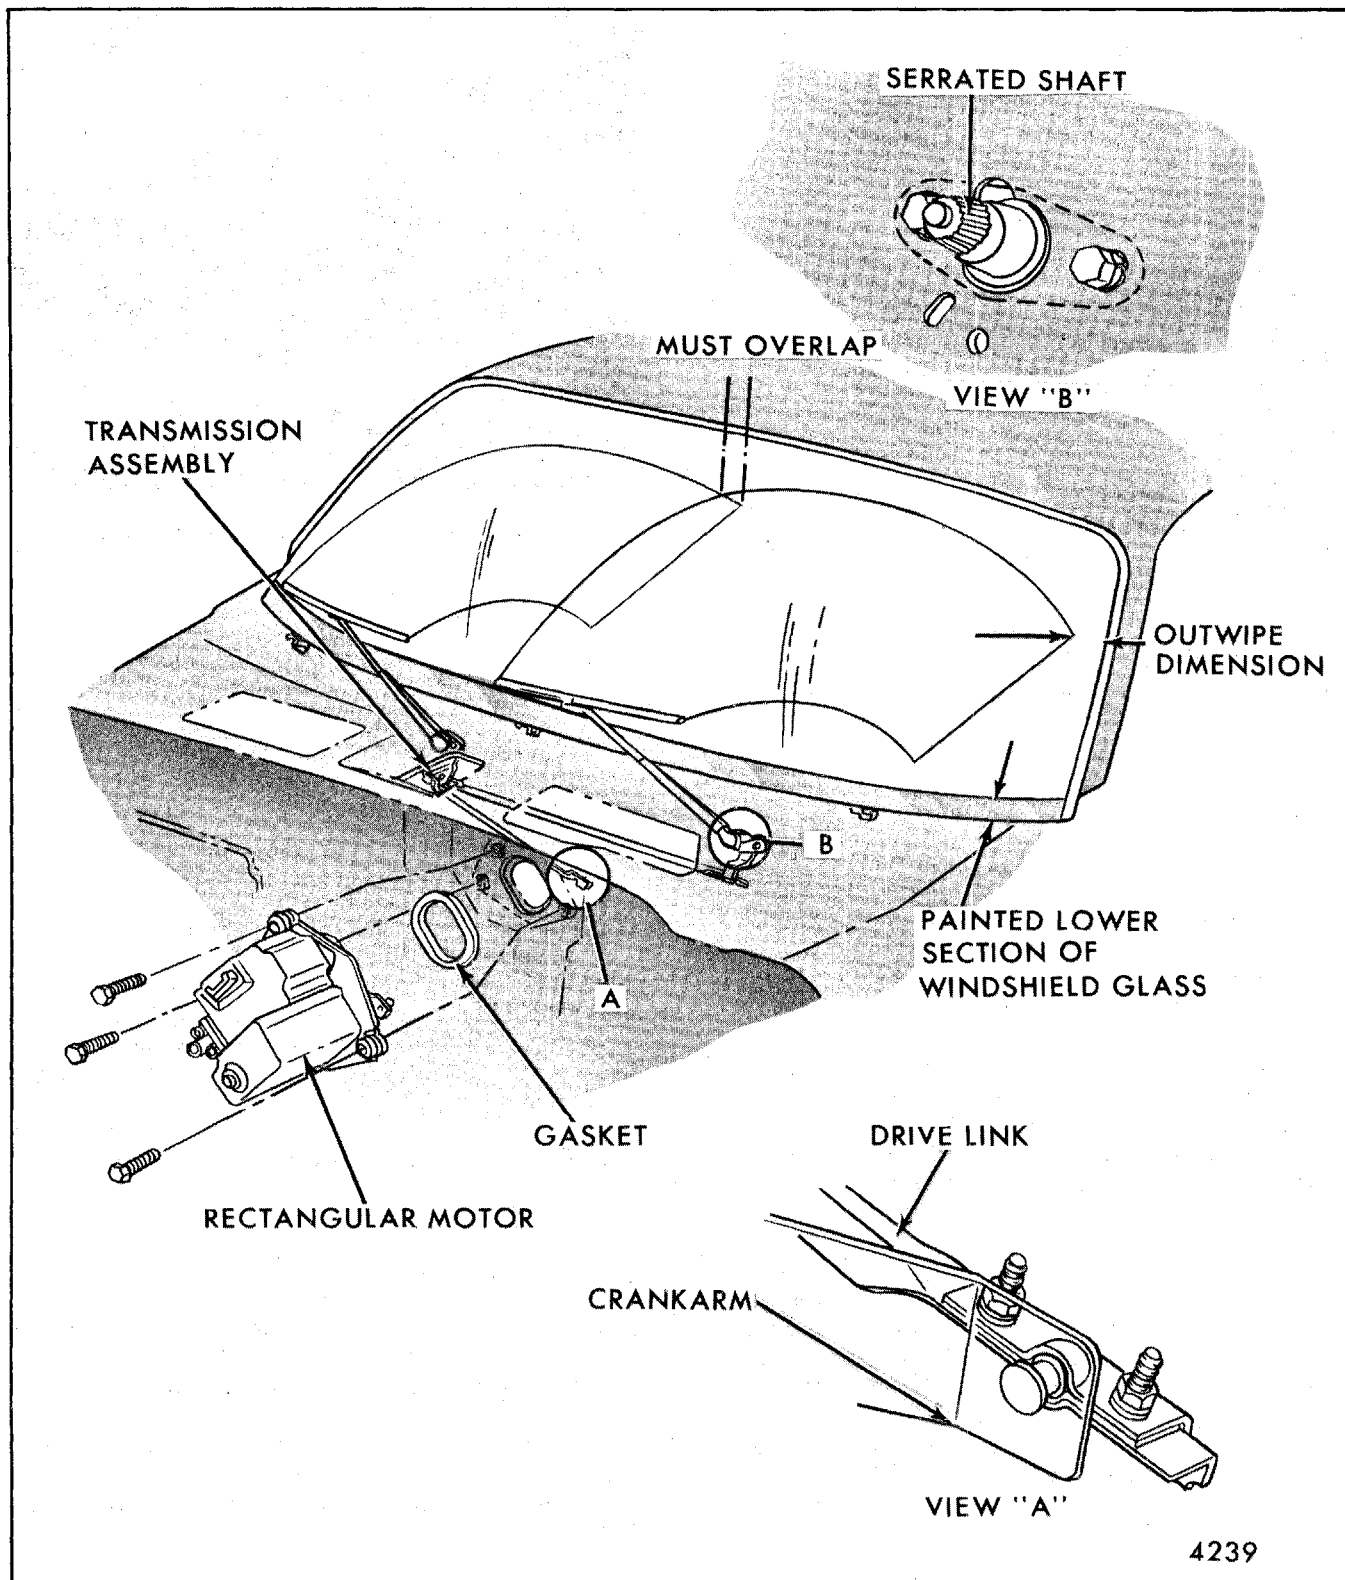

Fig. 2-8-Wiper Installation and Wipe Pattern - "F" Styles
3. Reaching through cowl opening, loosen (do not remove) the transmission drive link attaching nuts to motor crank arm (Fig. 2-8).
The parked position for "F" styles is indicated in Figure 2-8. On "X" styles, the tip of the left blade should rest 1.50" and the tip of the right blade 1.25" above top edge of windshield lower reveal molding. On "H" styles the tip of the left blade should rest approximately 2.00" and the tip of the right blade within 2.00" of top edge of lower windshield reveal molding. The outwipe dimension shown in Figure 2-8 is as follows: